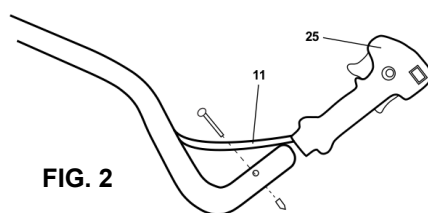

FIG. 2
3. Insert the handle grip (25) to the end of the auxiliary handle (12) (Fig. 2).